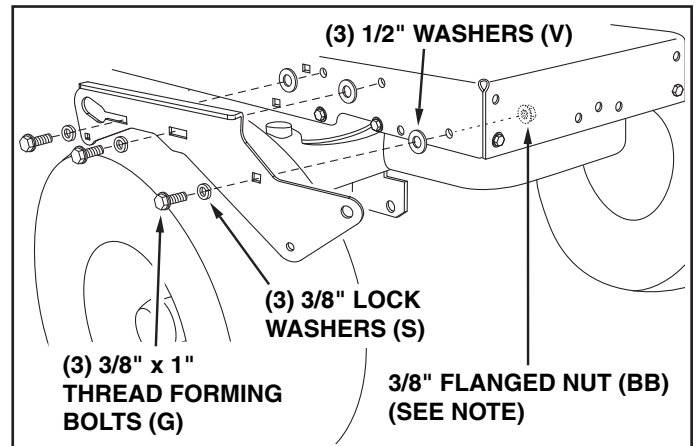

FIGURE 23 RIGHT SIDE VIEW
STEP 24: (SEE FIGURE 23)
- Fasten the R.H. Side Plate (bend facing out) to the three holes shown in the tractor frame. Use three 3/8" x 1" thread forming bolts (G), 1/2" washers (V) and 3/8" lock washers (S). Tighten all bolts and repeat for the L.H. side.